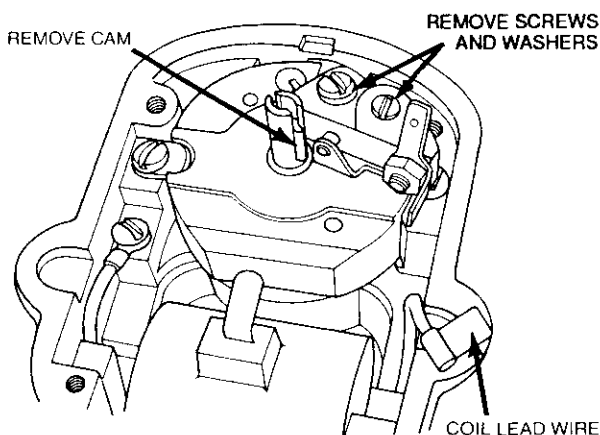

Figure 6.7.1
- D. Remove cam by prying straight up with a screwdriver blade. (See Figure 6.7.1).